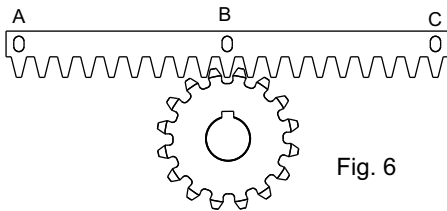
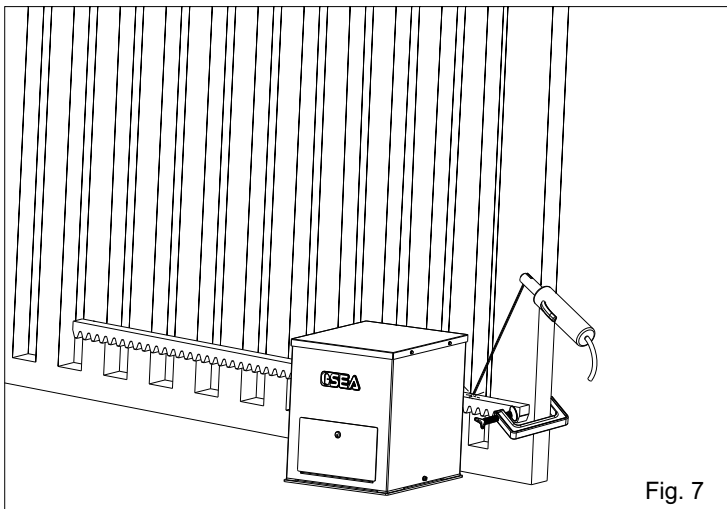

Fig. 6
Fig. 7
5.3. Lean the gear rack element on the toothed pinion of the motor so that it results parallel to the ground sideway of the gate, place it as shown in Fig. 6 and electrically weld the central pawl B to the gate structure (Fig. 7).